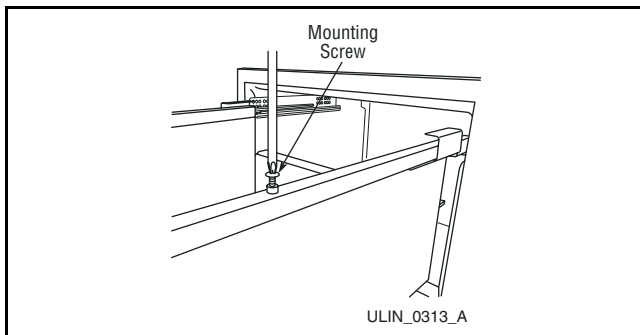

Figure 55
2. Re-install the rails' mounting screws (**Figure 55**).